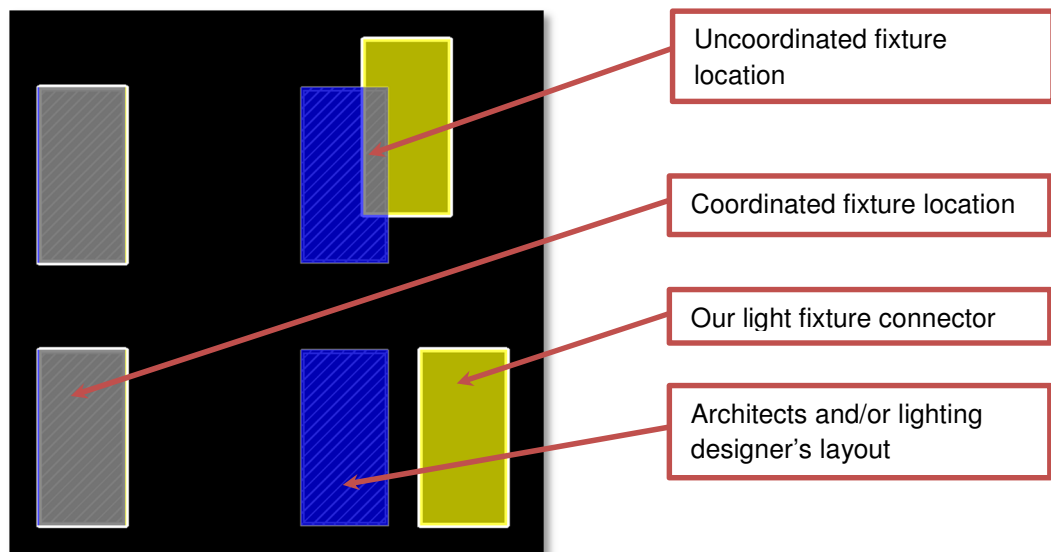

Figure 4.2
- d. In the coordination view, we overlaid our light fixtures on top of theirs. Figure 4.2 below shows that the blue fixture indicates the architect/lighting designer's light fixture layout, and yellow fixture indicates our light fixture connectors. Gray indicates we've overlaid the fixtures, and that the location is coordinated.